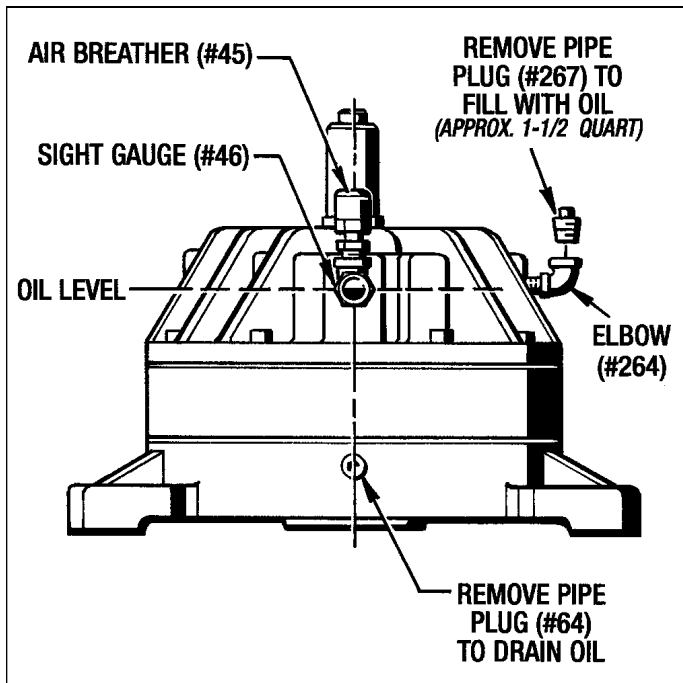

Figure 4.3 - Lubrication - Vertical Up Brake (MB-210-497)
3. Vertical Up Brake (MB-210-497) - *Figure 4.3*
(See Figure 4.3)
2. Remove the Pipe Plug (#267) from the Elbow (#264) to fill the brake with fresh oil to the center of the Sight Gauge (#46) as shown in Figure 4.3. Oil capacity is approx. 2 Quarts.